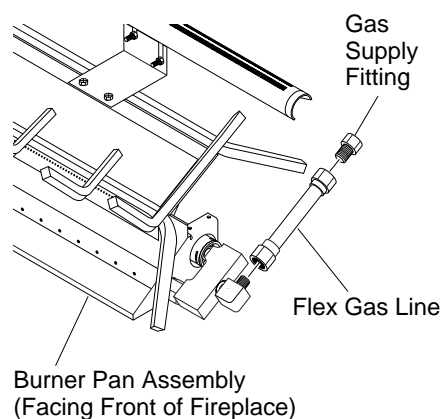

Figure 10 - Connecting Gas to Appliance
3. Install the flex gas line to the gas supply fitting. Carefully shape tube to attach to adapter fitting (see Figure 10).
4. Thread the gas supply fitting to the fireplace gas supply pipe (see Figure 10, page 9). Adjust to most convenient position.